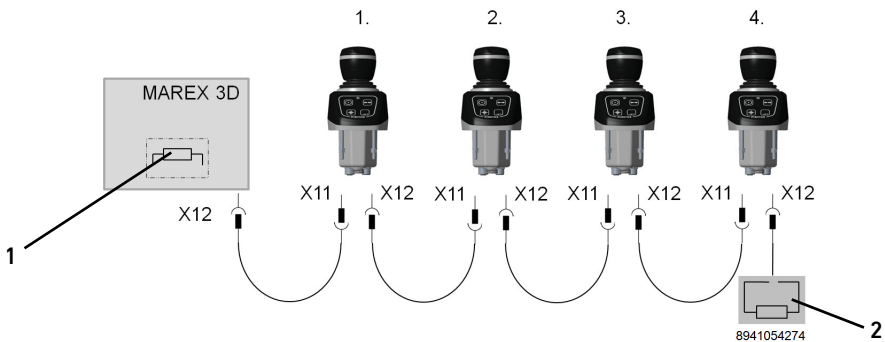

Abb. 4: CANbus connection Marex 3D controller to Joystick Type 531
- ▶ Make sure to connect a terminating resistor at the last component of the Marex 3D CANbus line, see also fig.4, CANbus connection Marex 3D controller to Joystick Type 531.
- ▶ Make sure to connect a terminating resistor at the last component on each CANbus line, see also fig 4, CANbus connection Marex 3D controller to Joystick Type 531.
2. Use the connector X12 at the Marex 3D controller to connect a CANbus cable M12. Route the other end of the cable to Joystick Type 531 and connect it to connector X11 from underneath the control panel (fig. 4).